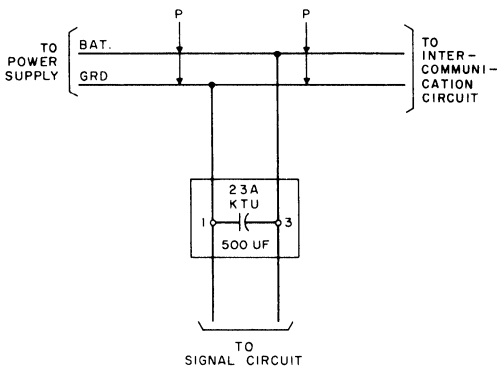

Fig. 20—Noise Suppression Filter
- 5.05** Where a common battery feeder is used for intercommunicating and signaling, connect a 23A KTU across the signal circuit (Fig. 20).